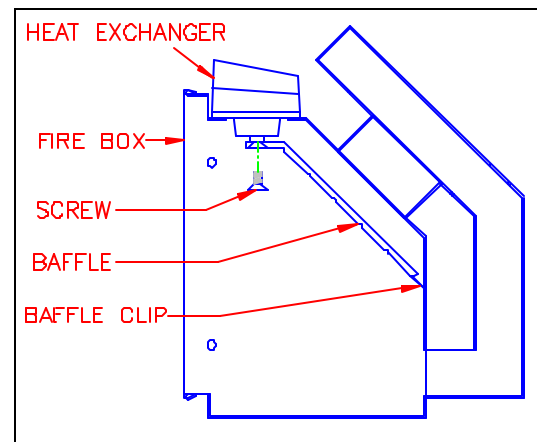
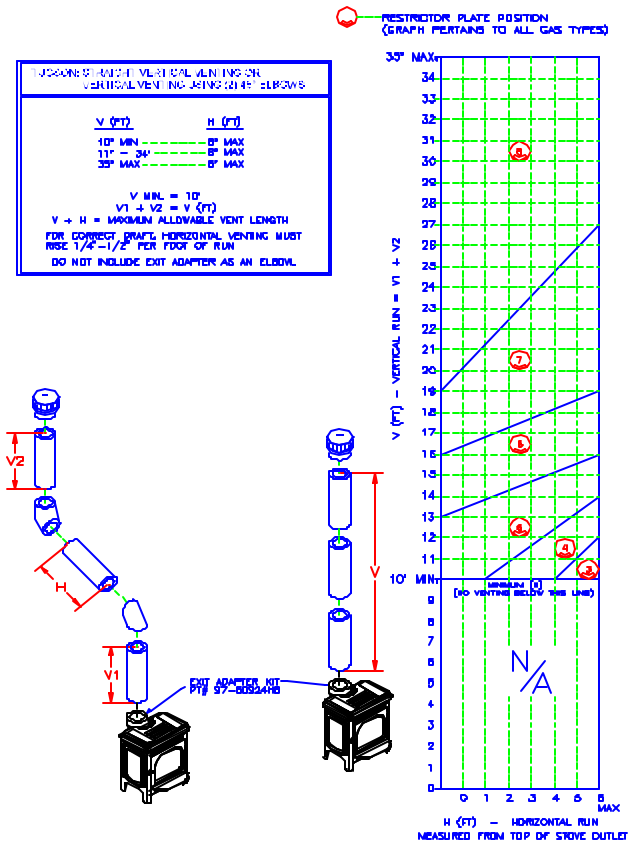
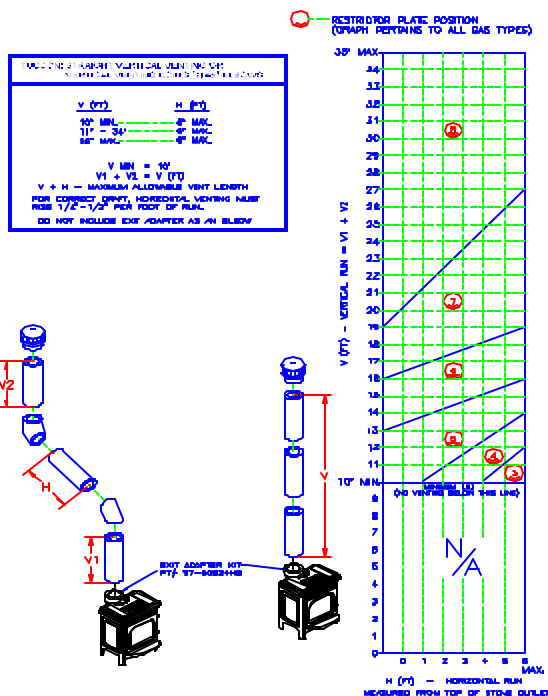

Figure 10: Baffle Removal
Figure 14: Vertical Terminations Using Straight Pipe
Figure 15: Vertical Termination Using (2) 90° Elbows
Remove the log set before adjusting restriction plate by following the log set removal on page 29. Make sure the unit is cool before touching any part of the firebox and log set. Remove the exhaust baffle by removing the one screw in the center of the baffle (refer to Figure 10). The baffle will fall out once the screw is removed. Be careful not to drop the baffle on the burner tube or burner tube holder. Once the baffle is set aside, check the restriction plate screw location. There are eight locations that the restriction plate can be positioned. (refer to Venting Configuration – Figures 14 – 16 for recommended restriction plate positions)
# APPROVED VERTICAL TERMINATION VENTING CONFIGURATIONS WITH NO ELBOWS OR (2) 45° OFFSETS, FIGURE 14, AND (2) 90° ELBOWS, FIGURE 15.
- 6' maximum offset (refer to Figure 14)
- 11' maximum offset (refer to Figure 15)
- The termination must fall within the Outline shown in the Figures 14 & 15. Use the indicated restriction plate position. The Restriction Plate part # is 5950-922.